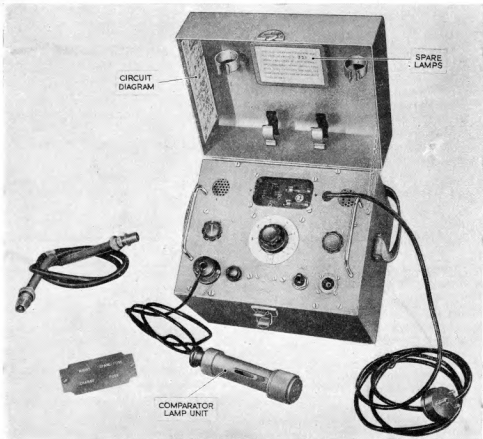

Fig. 16. Test set Type 102
50. The mains tapping link, access to which is gained by removing the small plate on the front panel of the test set, should be set so that socket C is linked to the 220/240 volts socket. Fig. 16 shows the position of the link and of the fuses, the upper of which is spare. When this check has been made proceed as follows:—
- (6) Connect the cable shown by the side of the instrument in fig. 16 between the
Test set Type 102 (fig. 16)